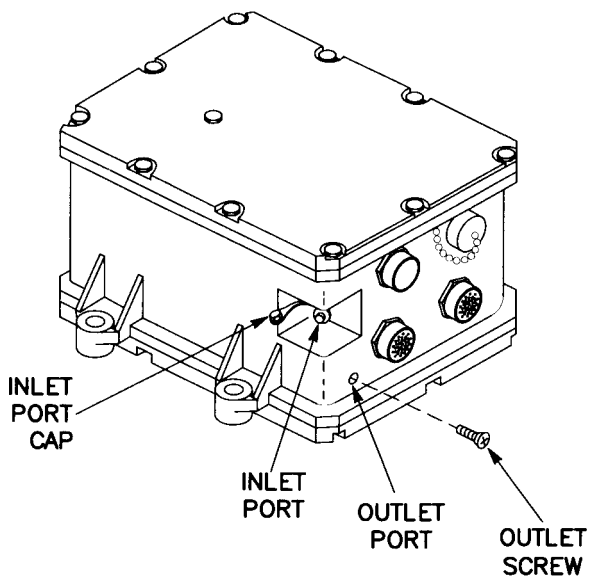

Figure 3-6 Computer Unit
c. Computer Unit (fig 3-6). Refer to para 3-5.a. for procedures.